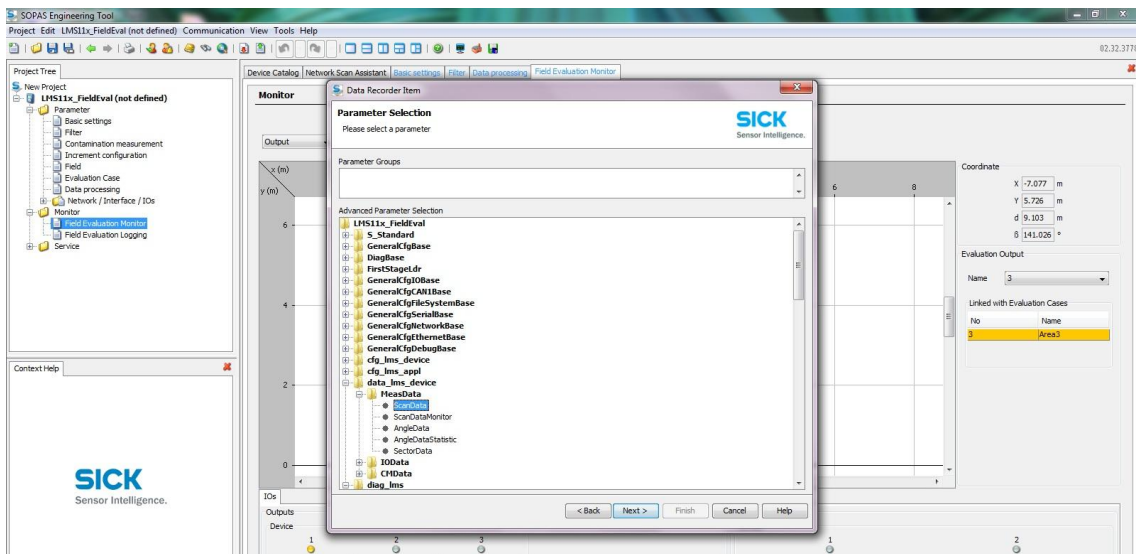
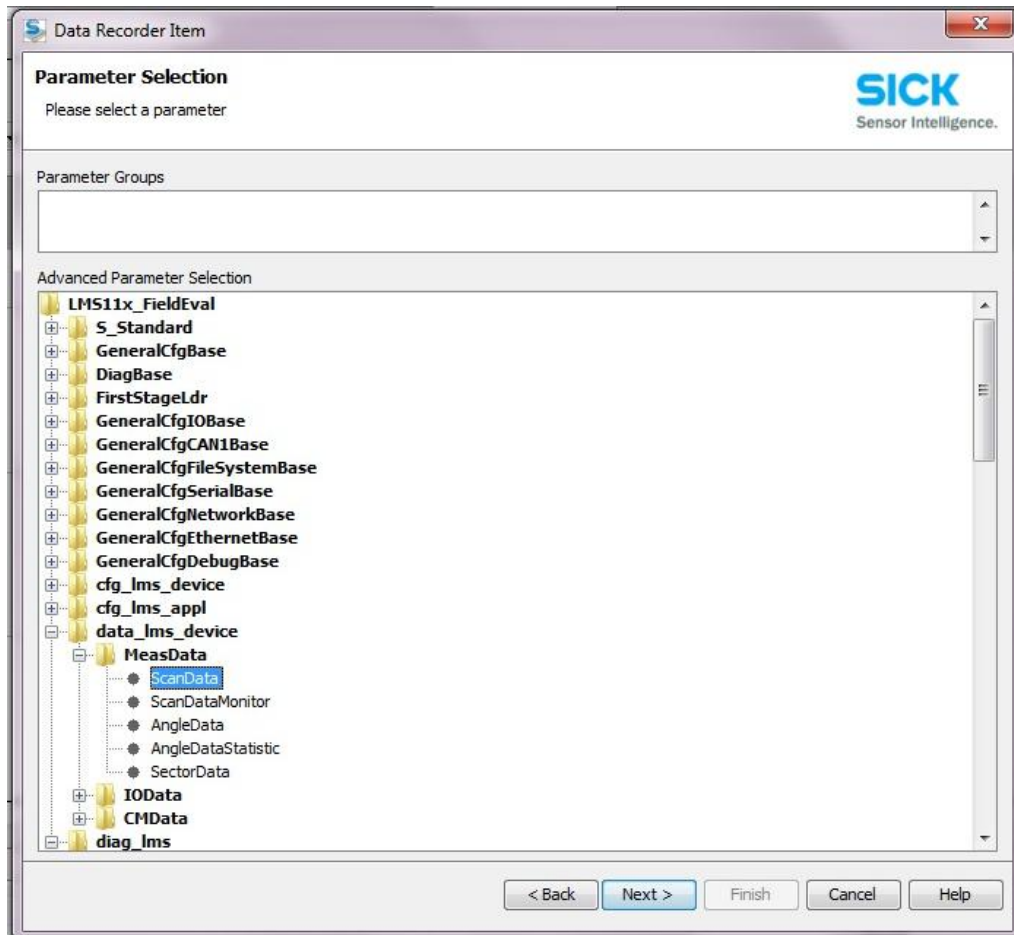

Fig. 15.
Fig. 16.
14. A new dialog box pops up. Fig.15 and Fig.16 (enlargement).